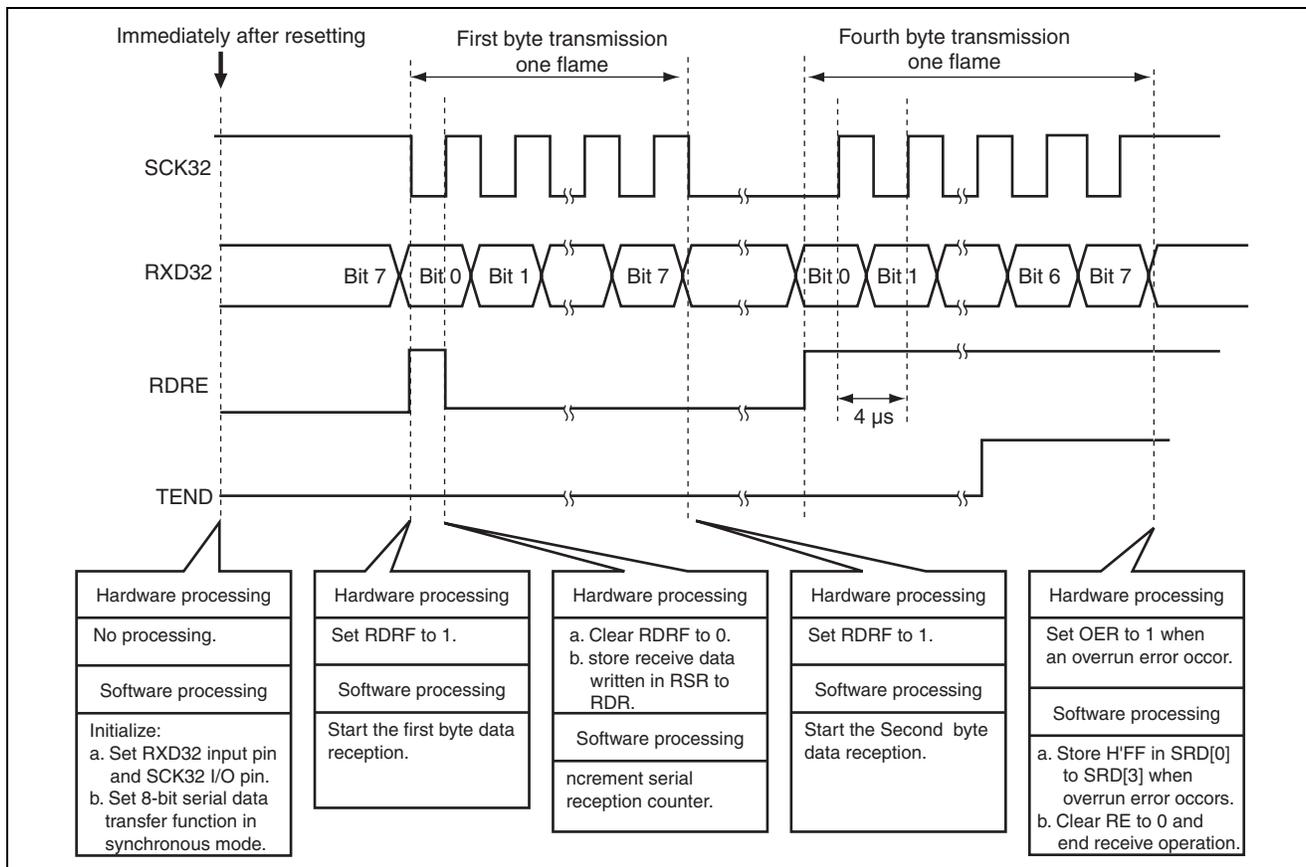

Figure 3.1 Operation Principle of Serial Data Reception in Synchronous mode
1. Figure 3.1 illustrates the principle of operation of this sample task. Serial data is received in synchronous mode by hardware and software processing of H8/38024 as shown in figure 3.1.